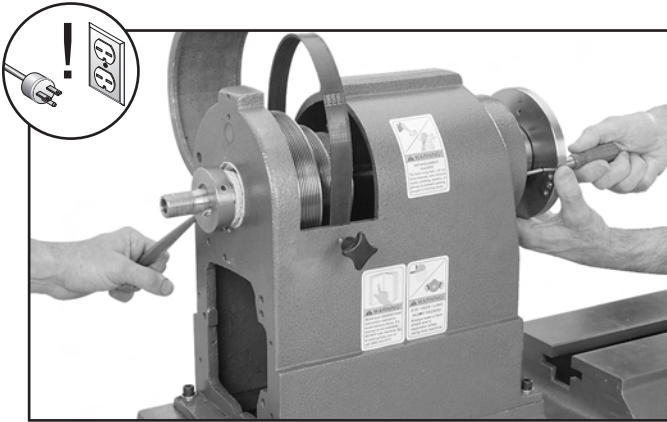

Figure 67. Seating outboard roller bearing.
19. While an assistant holds the metal rod through the faceplate to prevent the spindle from turning in the headstock, tighten the spanner nut until it is snug and seat the outboard bearing, as shown in **Figure 67**.